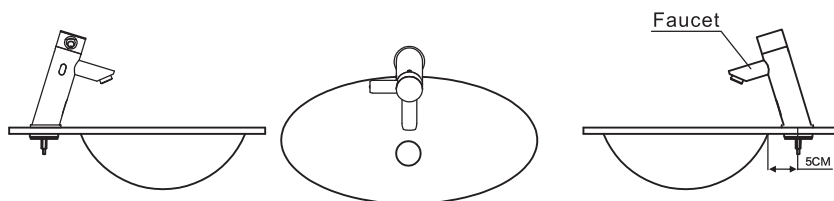

Figure 1
- 2.Drill a  $\Phi 35\text{-}\Phi 45$  mm hole on the counter as per figure 1, remove the nut and tapered gasket pass through the fixing rod cables and PU hose from the installation hole,put the spout body on right position,install the tapered gasket and nut.